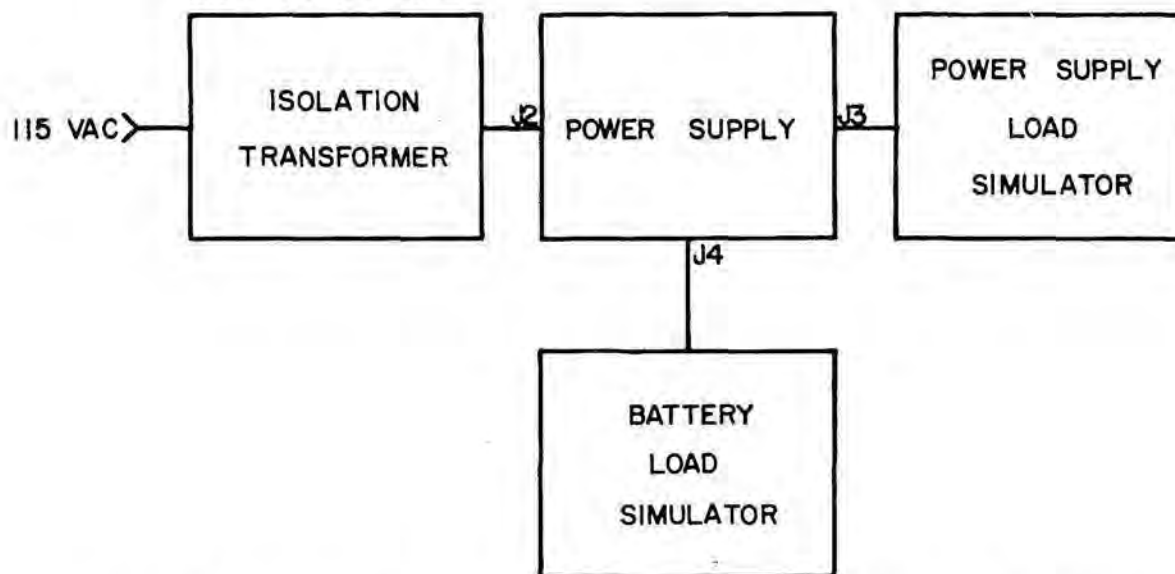

Figure 7-13 Power Supply Assembly Test Set-Up Diagram
2. Connect test equipment as shown in Figure 7-13.